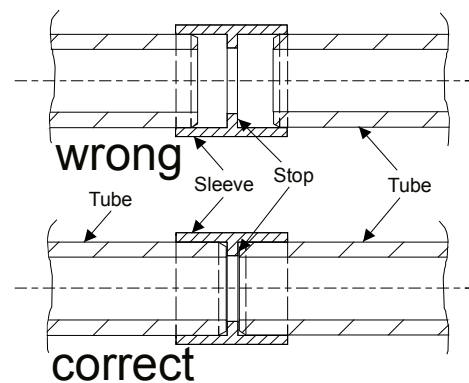

Fig. 21 Assembling the tubes
- The individual tube sections are connected using fittings. Depending on the tube material used, use either the adhesive process described in Sec. 5.5.2 and 5.5.3 or the pressing process described in Sec. 5.5.4. The tubes are pushed into the fittings as far as the stop, **Fig. 21**.